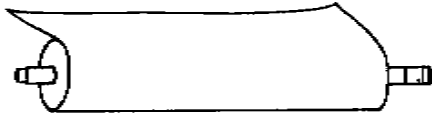

Figure 4
3. For the bottom supply roll, remove the run-off table. From the back of the laminator, place the mandrel ends into position in lower mandrel holder slots. Return the Run-off Table to its proper position before operating the laminator. If you are at the back of the laminator the film should unwind away from you at the top of the roll as in Figure 4 below.
9. Feed a piece of thin cardboard about 10" x 25" against the film so that it is centered between the two Heat Shoes. Push the cardboard and film into the Laminating Rollers. See figure 4.